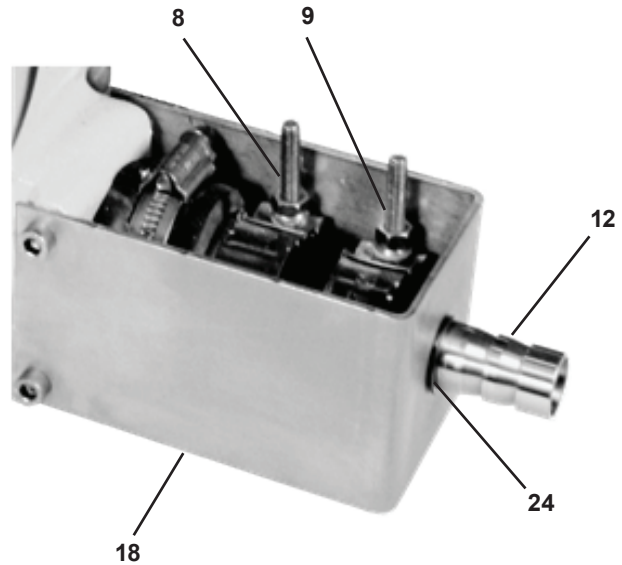

Figure 5
At the pump outlet, loosen clamps (8) and (9). Remove circlips (24) and dismantle bracket (18). Remove insert (12) and clamps. See Figure 5.